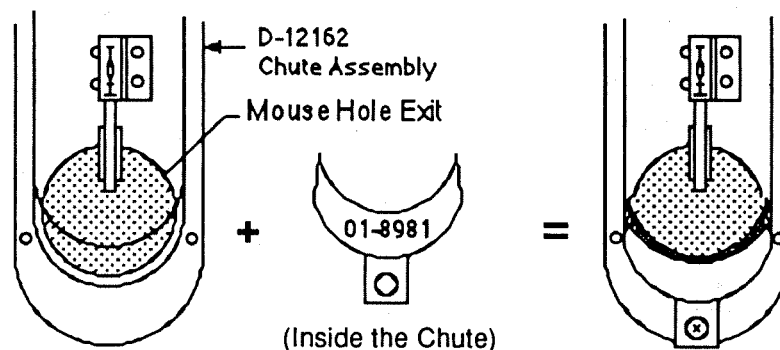

Figure 1. Installation of Chute Reinforcement Bracket
- [] 3. Remove the screws mounting the Chute Assembly (D-12162) on the Upper Playfield. Lift the Chute Assembly enough to allow placing the Chute Reinforcement Bracket (01-8981) on the inner, bottom portion of the Chute Assembly, as shown in Figure 1.